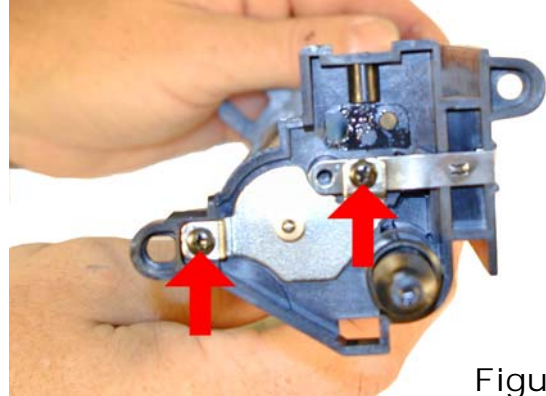

Figure 34
30) Remove the two screws from the metal drum axle plate, and the axle plate. See **Figures 34 & 35**